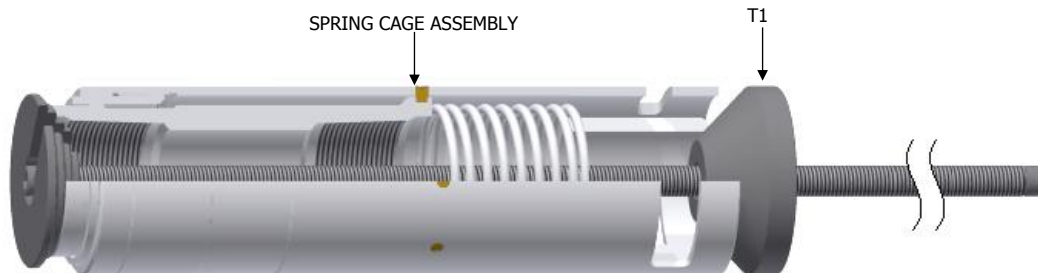

Fig. 2
J-1.17.1) Position assembly tool (T1) hand-tight against top sub (1) and spring cage (5) of spring cage assembly (Fig. 2).